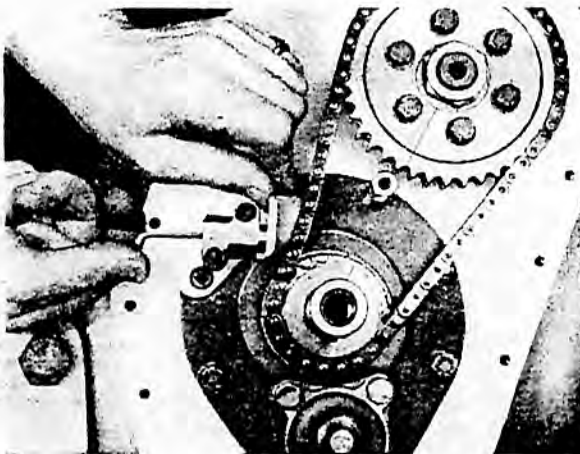

FIG. 130. SETTING THE CHAIN TENSIONER
Release the tab washer and remove the screwed end plug (13). Insert a No. 4 Allen key as shown in Figure 130 and turn inner cylinder clockwise, thus releasing the chain tension. Remove the chain tensioner and backing plate after unscrewing the attachments (9) and (10).
Without releasing this assembly, offer it and the plate (3) up to the front face of the cylinder block and, after securing it with the bolts (9) and lock washers (10), adjust the tensioner by turning the Allen key clockwise sufficiently to take up the slack, as shown in Fig. 130. Finally fit the screwed end plug and tab washer to the body and turn up the locking tabs.